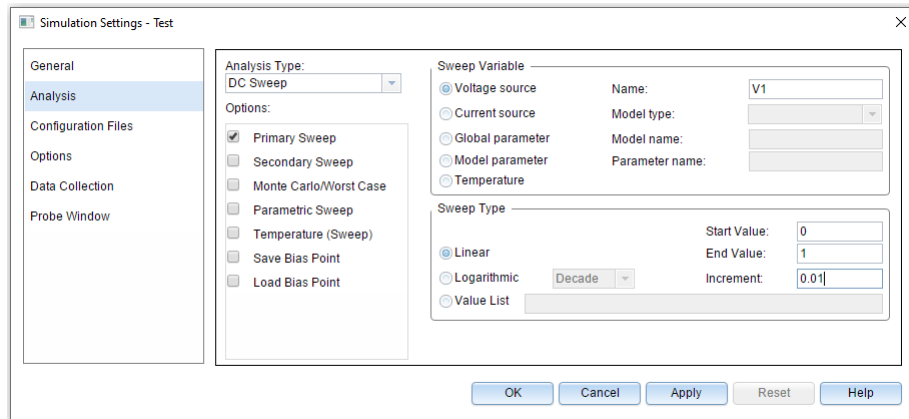

Figure 3: Simulation Settings for Basic Resistor Diode Circuit
- Using the PSPICE menu create a new simulation profile. Change the Analysis Type to DC Sweep. Indicate the voltage source's name (Ex. V1) under the name category. Set the Start Value to 0V and end value of 1V. Use an increment setting of 0.01V. See figure 3.